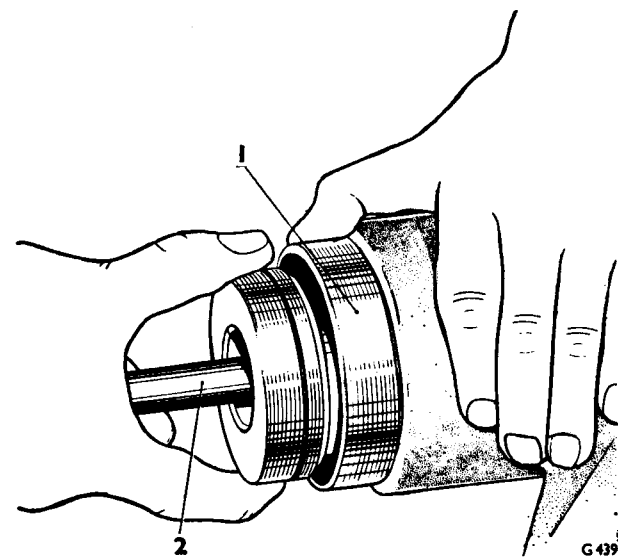

FIG. N36 INSTALLING RACK-PISTON SEAL COMPRESSOR
8. Insert rack-piston seal compressor (RH 7785) into the steering box housing (*see Fig. N36*), holding it tightly against the shoulder in the housing.